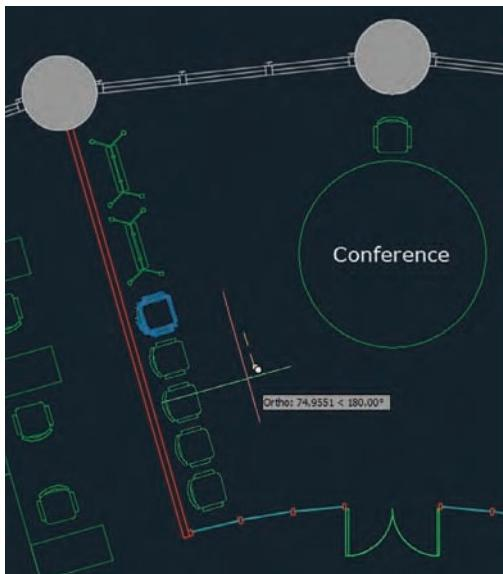

FIGURE 4.14 Copying chairs in an array
- Type **5** and press Enter. Move the cursor downward and observe that five ghosted chairs appear. When the spacing looks right (see Figure 4.14), click in the document window to complete the array and press Enter.